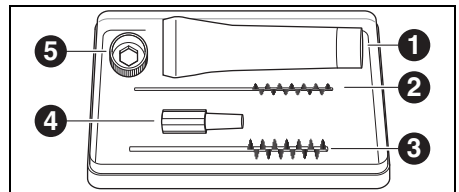

Fig. 20 Service set for spindle
- ▷ Apply a light coat of the collet grease ([1] in Fig. 20) from the service set to the outer cone of the collet.